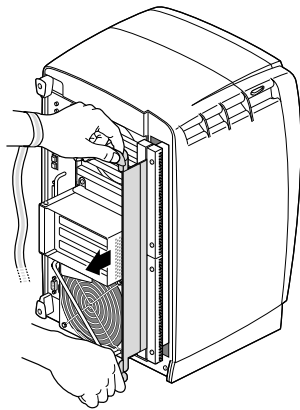

Figure 8 Releasing the XIO Quad-Module
2. Grasp the handles and pull them until the XIO Quad-Module protrudes about an inch from the chassis, as shown in Figure 8.